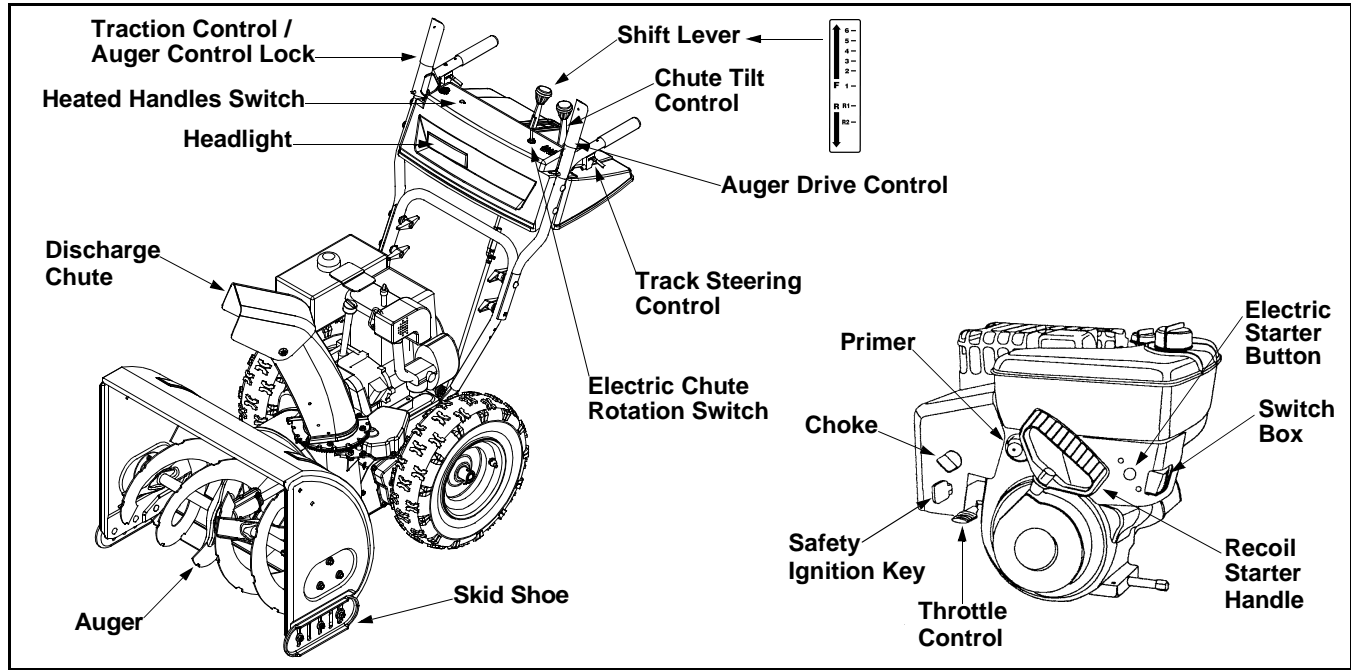

Figure 7
- Move the shift lever into sixth (6) position.
- a. With the traction control (refer to Figure 7) released, squeeze in triggers and gently push the snow thrower forward, then pull it back. Disregarding the overall weight of the snow thrower, the machine should otherwise move freely.
The traction control is located on the right handle. Squeeze the traction control to engage the wheel drive. Release to stop. See Figure 7.
The auger drive control is located on the left handle. Squeeze the control grip to engage the augers. Release to stop the snow throwing action. (Traction control must also be released.) See Figure 7.
The distance snow is thrown can be changed by adjusting the angle of the chute assembly. Move the chute tilt control forward to decrease the distance, toward the rear to increase. See Figure 7.
The position of the skid shoe is determined by the condition of the ground from where snow has to be removed. See Figure 7.
The shift lever is located in the center of the handle panel and is used to determine both ground speed and direction of travel. It can be moved into any of eight positions. See Figure 7.
The electric chute-rotation switch is located on the left side of the snow thrower dash panel. See Figure 7. To change the direction in which discharged snow is thrown, proceed as follows:
The left and right wheel steering controls are located on the underside of the handles and are used to assist in steering the snow thrower. Squeeze the right wheel steering control when turning right, squeeze the left control when turning left. Operate your snow thrower in open areas until you become familiar with these controls. See Figure 7.
The throttle control is located on the engine. It regulates the speed of the engine and will shut off the engine when pushed down completely. See Figure 7.
The safety ignition key must be fully inserted in the switch before the unit will start. Remove the ignition key when the snow thrower is not in use. See Figure 7.
- Move throttle control up to FAST position. Insert ignition key into slot. See Figure 7. Be certain it snaps into place. **Do not turn key.**